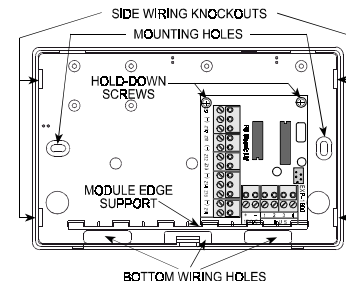

Figure 6.3 UPB-3 Base with EXP-1600
- (1) Remove the screw that secures the UPB-3 cover to the base.
- (2) Insert a small screwdriver blade into the slot near one of the snap-in teeth, as shown. Carefully flex the cover edge out, until the tooth disengages the dent. Repeat this with the other tooth to free the cover edge completely.
- (3) Lift the free edge of the cover diagonally up and get the other edge free by pulling it backwards to disengage tabs at back.
- (4) Hold the base against the mounting surface and mark the points for drilling.
- (5) Drill the mounting holes and insert wall anchors if necessary. Choose the most convenient wiring entry holes and insert the wires into the base. Attach the base to the mounting surface with two screws.
- (6) Put the expander module in place (see Fig. 6.3) with the bottom edge seated in the module edge support. Align the holes at the top of the PCB with the plastic standoffs in the base. Secure the module to the base with short hold-down screws